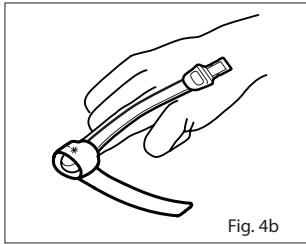

Fig. 4b
3. Refer to Fig. 4b. Wrap the adhesive wrap around the finger so the emitter window (✳) aligns on the top of the finger directly opposite the detector. Complete coverage of the detector window is needed to ensure accurate data.